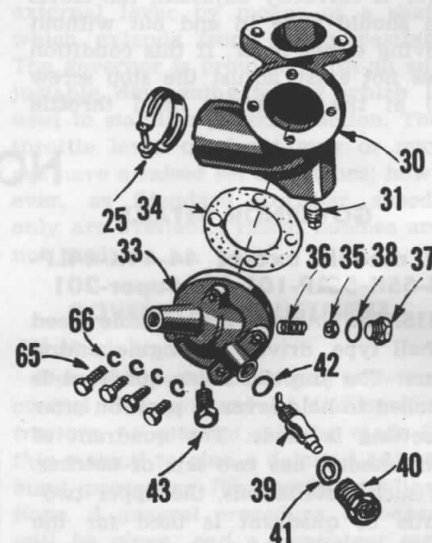

Fig. MH204—Massey-Harris Diesel engine manifold preheater.
**109.** To assist in cold weather starting, the inlet manifold is equipped with an electrically operated preheater. Included in the preheater set up is a special spark plug (39—Fig. MH204) and a separate ignition coil. Disassembly procedure for the preheater is self-evident. Malfunctioning of the unit is usually caused by fouling or grounding of the spark plug. Recommended preheater plug is AC F1 or equivalent. Plug is available under Massey-Harris parts number 761923M1.